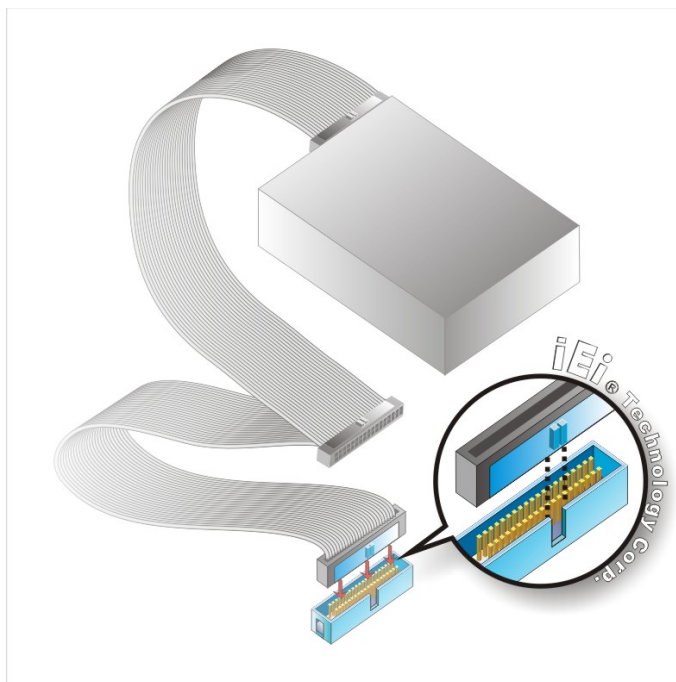

Figure 5-11: IDE Cable Connection
Step 2: Insert the connector. Connect the IDE cable connector to the onboard connector. See **Figure 5-11**. A key on the front of the cable connector ensures it can only be inserted in one direction.